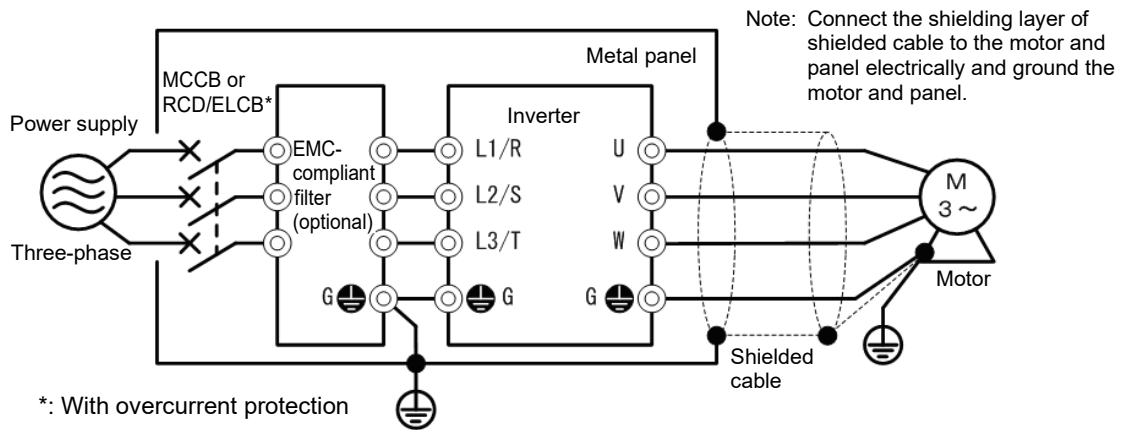

Fig. F.1-1 EMC-compliant filter (option) installation method
- 3) If noise from the inverter exceeds the permissible level, enclose the inverter and its peripherals within a metal panel as shown in Fig. F.1-1.